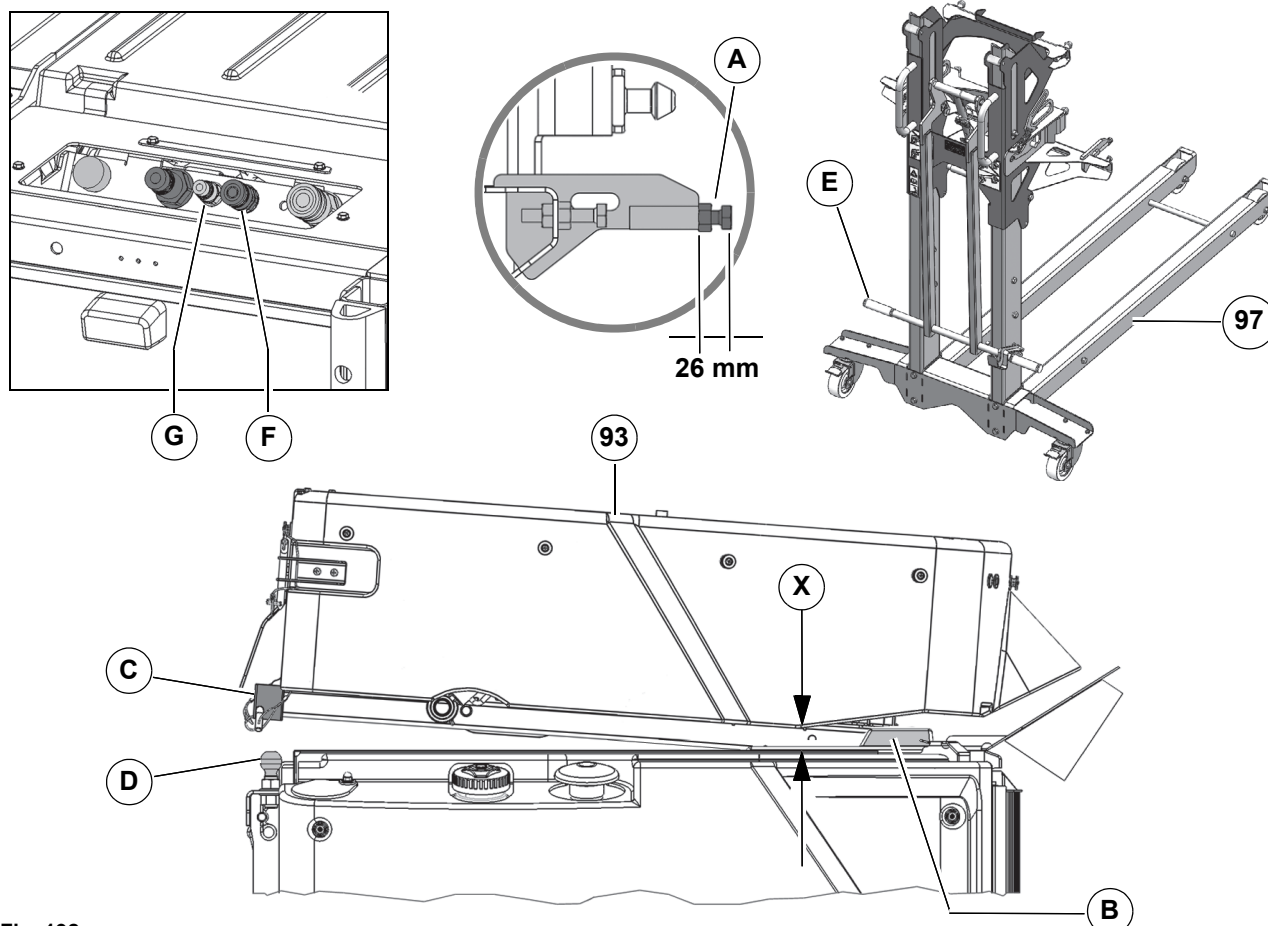

Fig. 192:
- Position the loading platform over the rear wagon and check the gap size **Fig. 192-X** with 5-10 mm. If necessary, correct with the adjusting screw **Fig. 192-A**.
- Push the rollers of the loading platform up into the pockets **Fig. 192-B** of the rear wagon.
- The holders **Fig. 192-C** of the loading platform and the holders **Fig. 192-D** of the rear wagon must be in alignment.
9. Unlock the lever **Fig. 192-E** of the trolley and lift the trolley carefully. Let the loading platform down slowly! Withdraw the trolley.
- Loading platform raising/lowering – supply = **Fig. 192-F**
- Loading platform raising/lowering – return = **Fig. 192-G**